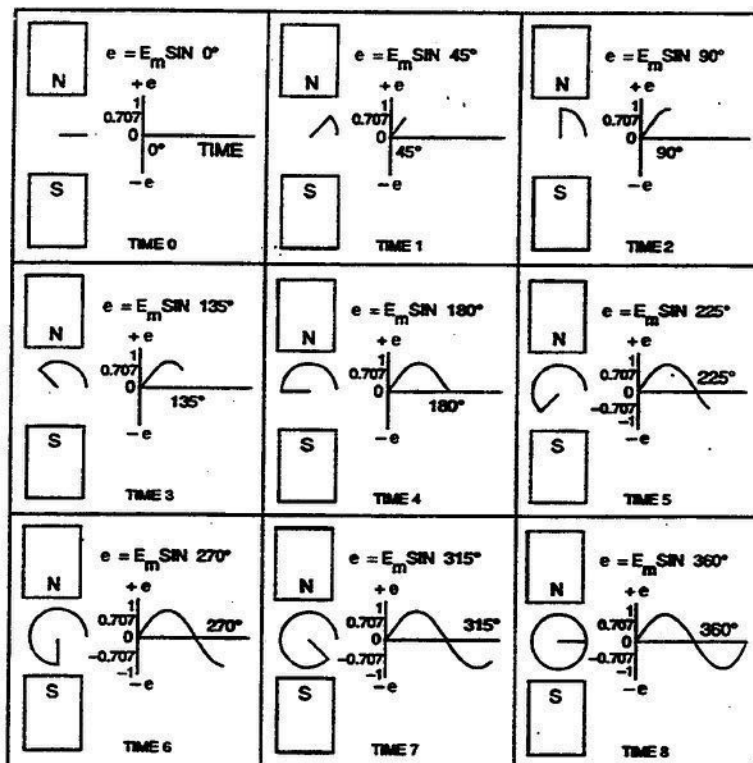

Figure 2-60. Generation of a sine wave.
**A complete cycle.** If the loop of wire in the simple alternator is rotated at a constant speed, a voltage is generated that varies in amplitude and periodically reverses polarity. To show how this waveform of voltage is generated, the amplitude of the voltage induced into the loop is plotted for each  $45^\circ$  of rotation (fig. 2-60).
What is a radian? Remember that the circumference of a circle is equal to  $2\pi$  times its radius. We can describe a circle or any portion of its arc in terms of its radius. Look back to figure 2-60 and notice the relationship of the sine wave phase and the armature location. A full circle is, therefore,  $2\pi$  radians, or  $360^\circ$ ; a half circle is  $\pi$  radians, or  $180^\circ$ ; a quarter circle is  $\pi/2$  radians, or  $90^\circ$ , etc. The time of one rotation or one generation of a sine wave represents its period.